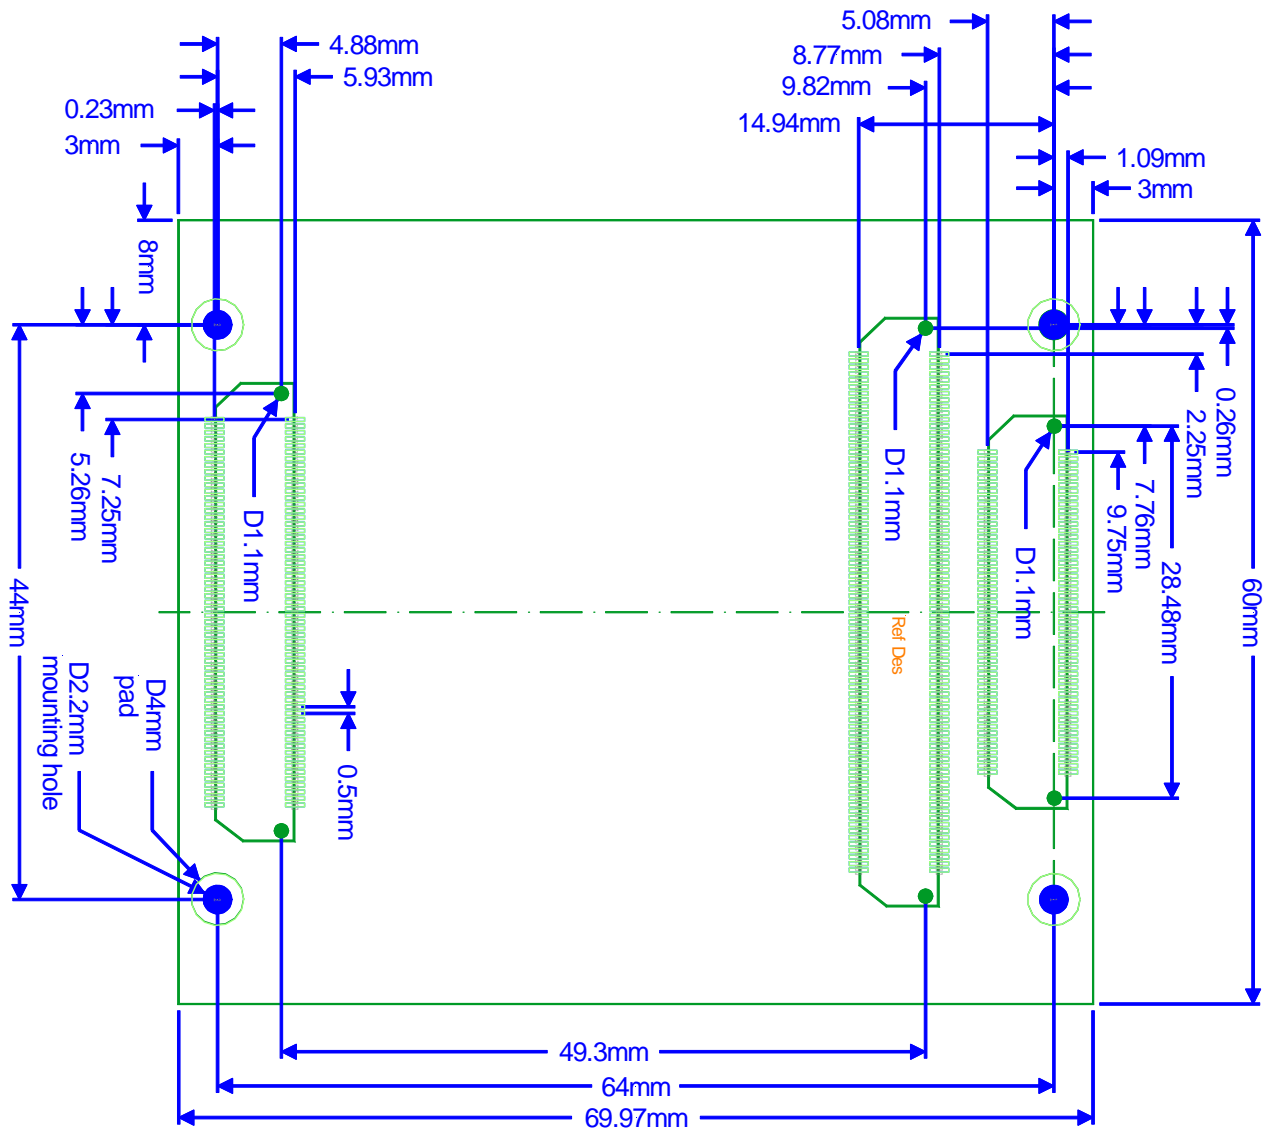

Figure 10: Footprint of the phyFLEX-i.MX 6
3. the link "Carrier Board" within the category Dimensional Drawing leads to the layout data as shown in *Figure 10*. It is available in different file formats. Use of this data allows to integrate the phyFLEX-i.MX 6 SOM as a single component into your design.